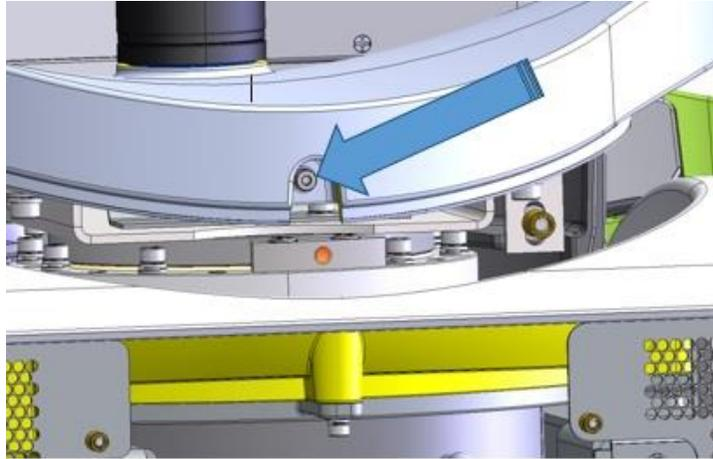

Figure 60: Deck Rear View
8. Using the 3 mm hex driver, loosen the hex screw at the rear of the deck (refer to Figure 60). Once loosened, pull the *monitor support arm* upwards. Feed the monitor cables out of the arm.
3. Lock the arm by fastening the screw at the rear of the deck (refer to Figure 60).